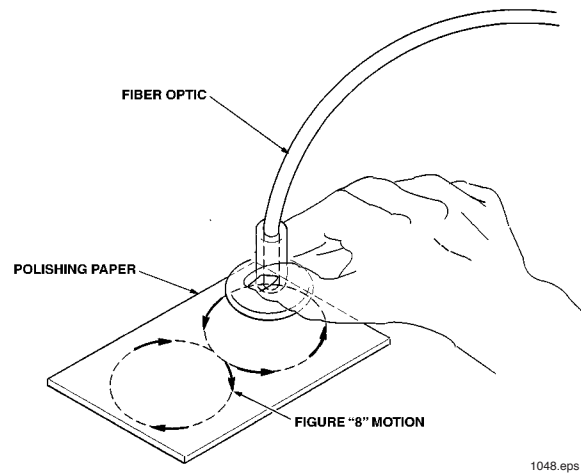

Figure 19. Fiber polishing showing the figure-8 pattern.
23. Polish the end of the fiber in a "figure 8" pattern as shown in Figure 19. Repeat the pattern while lightly pressing the tip of the fiber against the sandpaper. Use the polishing puck to hold the ferrule at a 90° angle (perpendicular) to the polishing surface to create the ideal polishing angle.